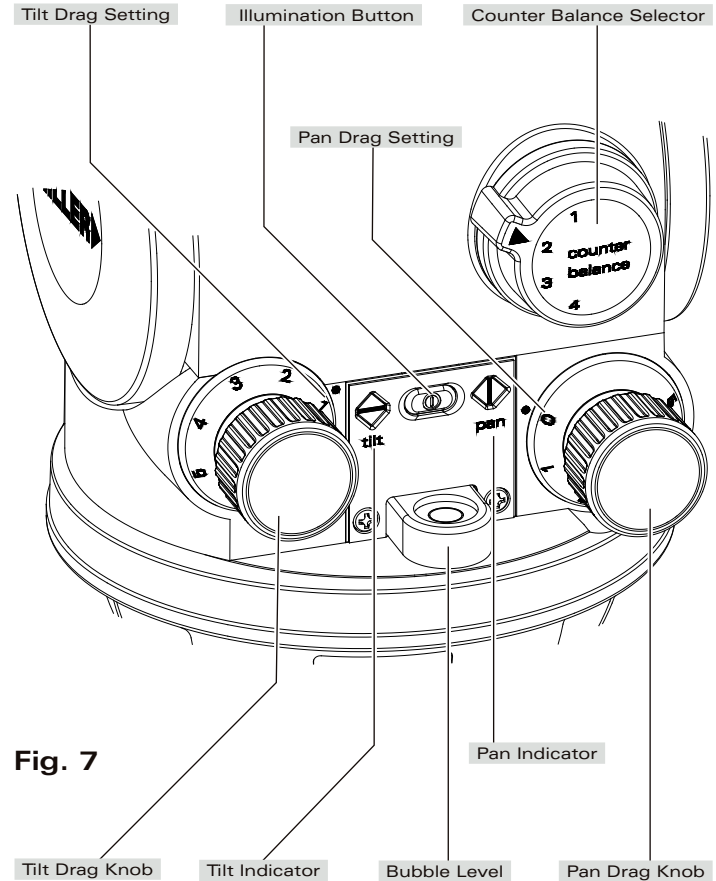

Fig. 7
- ▶ Insert the new battery as shown in figure 7.